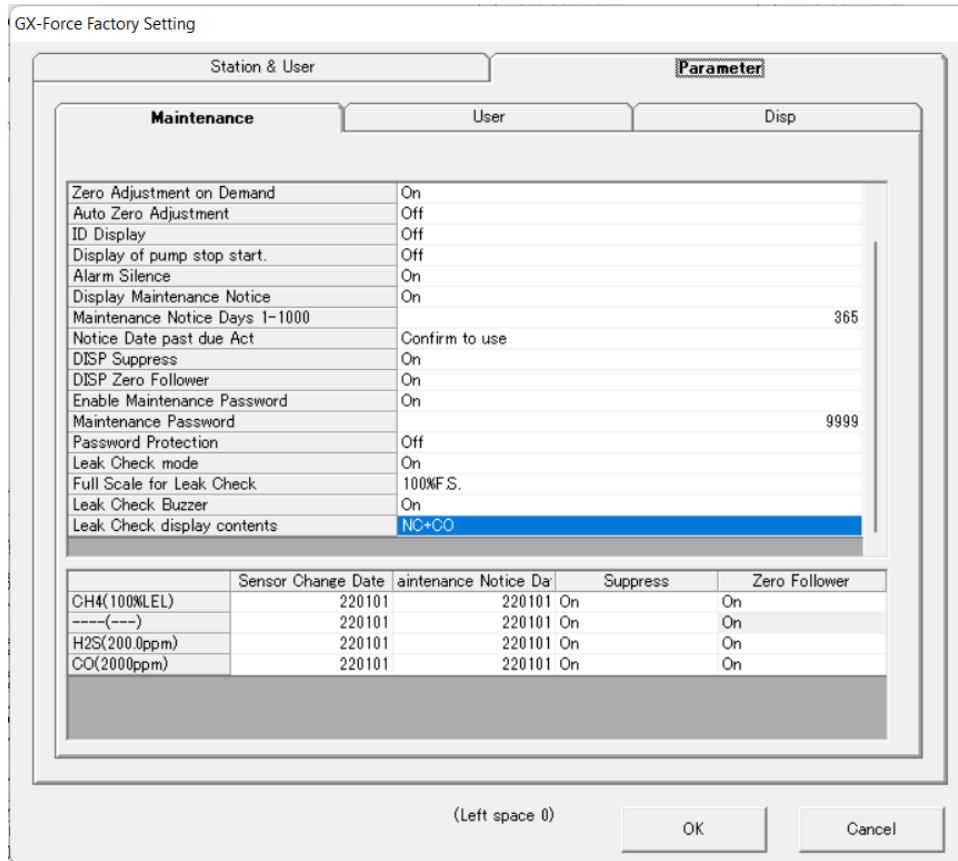

Figure 14: Detail Settings Maintenance Tab
- The Parameters window displays the Maintenance Tab. To adjust any parameter, double-click on the parameter's current setting in the right column as shown in Figure 14.